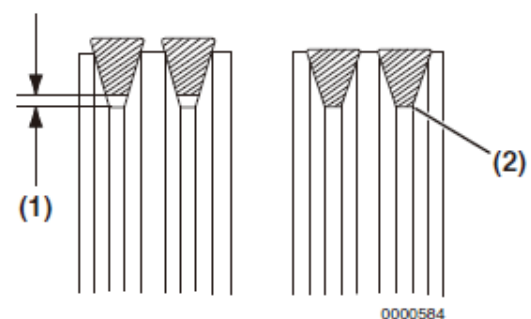

Fig.9-8
3. Tighten the V-belt to the proper tension. There must be clearance (**Fig.9-8, (1)**) between the V-belt and the bottom of the pulley groove. If there is no clearance (**Fig.9-8, (2)**) between the V-belt and the bottom of the pulley groove, replace the V-belt.